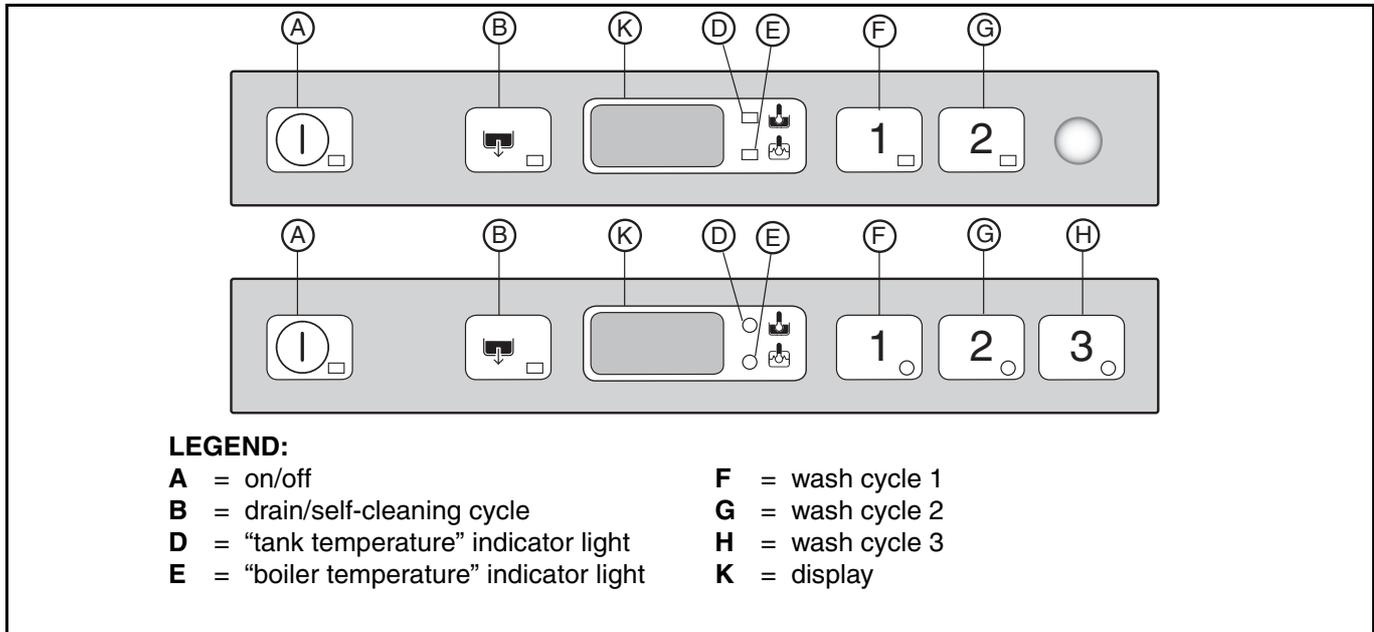

Figure 19
The indicator light of button "A" (Figure 19) comes on, indicating that the dishwasher is powered and that
To display the boiler temperature during heating of the tank, open the door and press the button “F” (Figure 19).
For not very dirty dishes or glasses: press button “F” (Figure 19), (see table of times).
For very dirty dishes: press button “G” (Figure 19), (see table of times).
For very dirty dishes: press button “H” (Figure 19) (see table of times).
- Select the drain and cleaning cycle by pressing button "B" (Figure 19).
- Switch off the dishwasher by pressing button "A" (Figure 19).